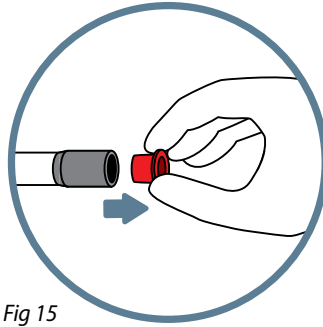
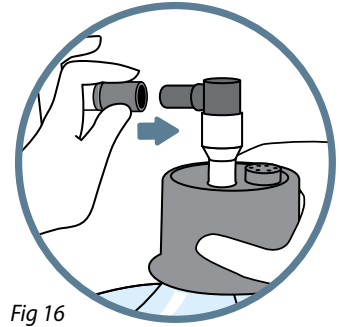

Fig 15
Fig 16
18. Remove the red protective cap from the bottle tube (Fig 15). Install it into the bottle adaptor (Fig 16).